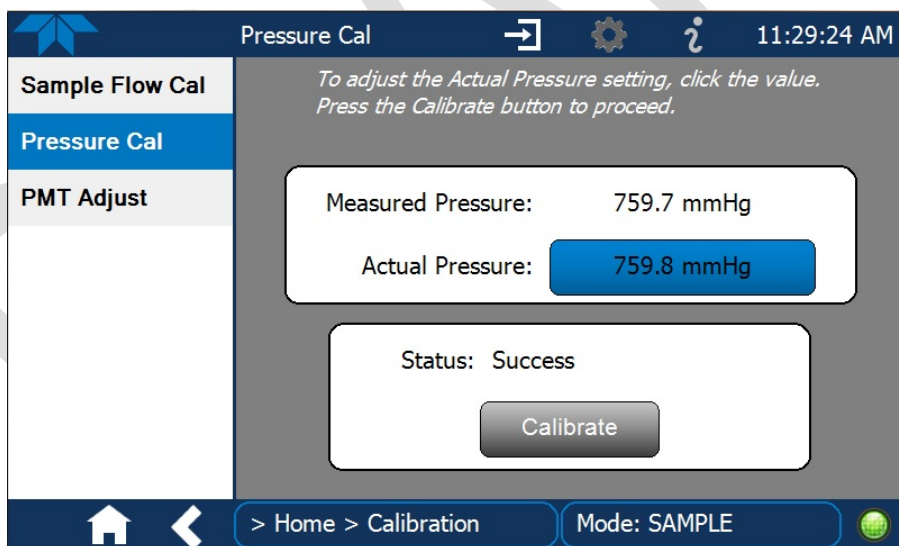

Figure 15. Pressure calibration screen. IMPORTANT: Perform this calibration prior to any flow calibration.
2. Compare the “Measured Pressure” in this screen to the Audit Pressure Standard (Figure 15).